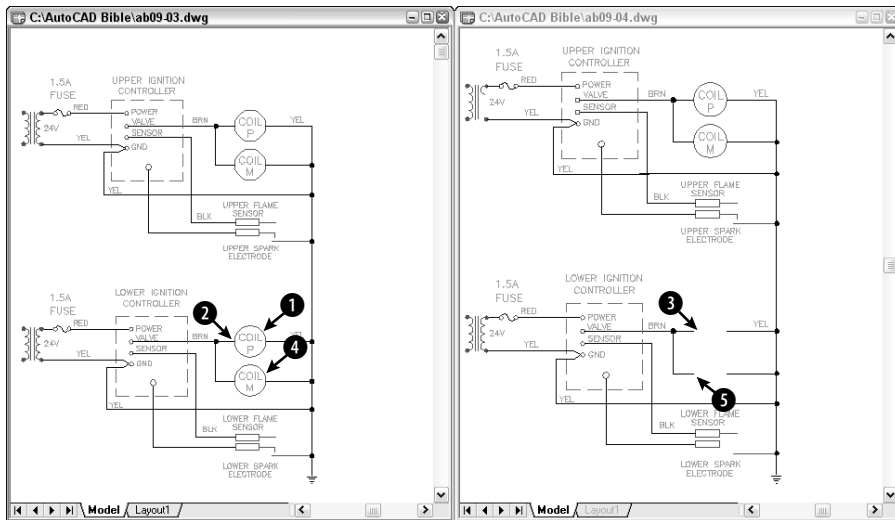

Figure 9-7: To copy objects from one drawing to another, display them both on the screen together. (The drawings may appear reversed on your screen.)
2. Choose Window ⇨ Tile Vertically. This displays the drawings side by side, as shown in Figure 9-7.
4. Pick the circle at ❶ and the two lines of text inside it.
6. At the Specify base point: prompt, pick the endpoint at ❷ in Figure 9-7.
7. Click anywhere in ab09-04.dwg to make it the current drawing. Right-click and choose Paste from the shortcut menu. At the Specify insertion point: prompt, pick the endpoint at ❸ in Figure 9-7 to paste the objects.
8. Click in ab09-03.dwg. Press Esc to clear any grips. Pick the circle at ❹ in Figure 9-7. (Don't include the text this time.) Click again and hold the mouse button on the circle, but not on the grips, until you see the pointer arrow with the rectangle. Drag the circle to ❺ in Figure 9-7. As you can see, you have no way to precisely place the circle.